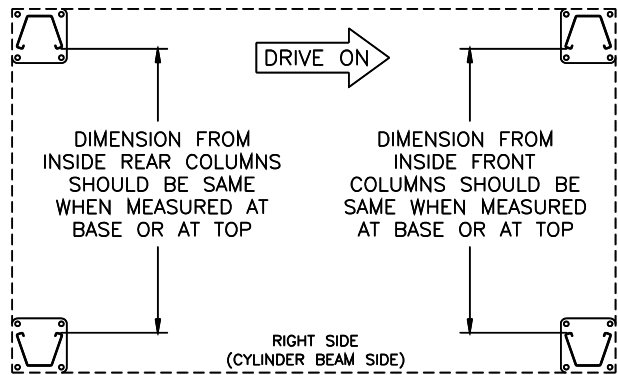

Fig 12 – Column Parallel Measurements
- 19) Check the dimension from the inside of the two front columns measured at the base plate and at the top of the column, **Fig 12**. Adjust idler side shims if necessary. Repeat for rear columns.